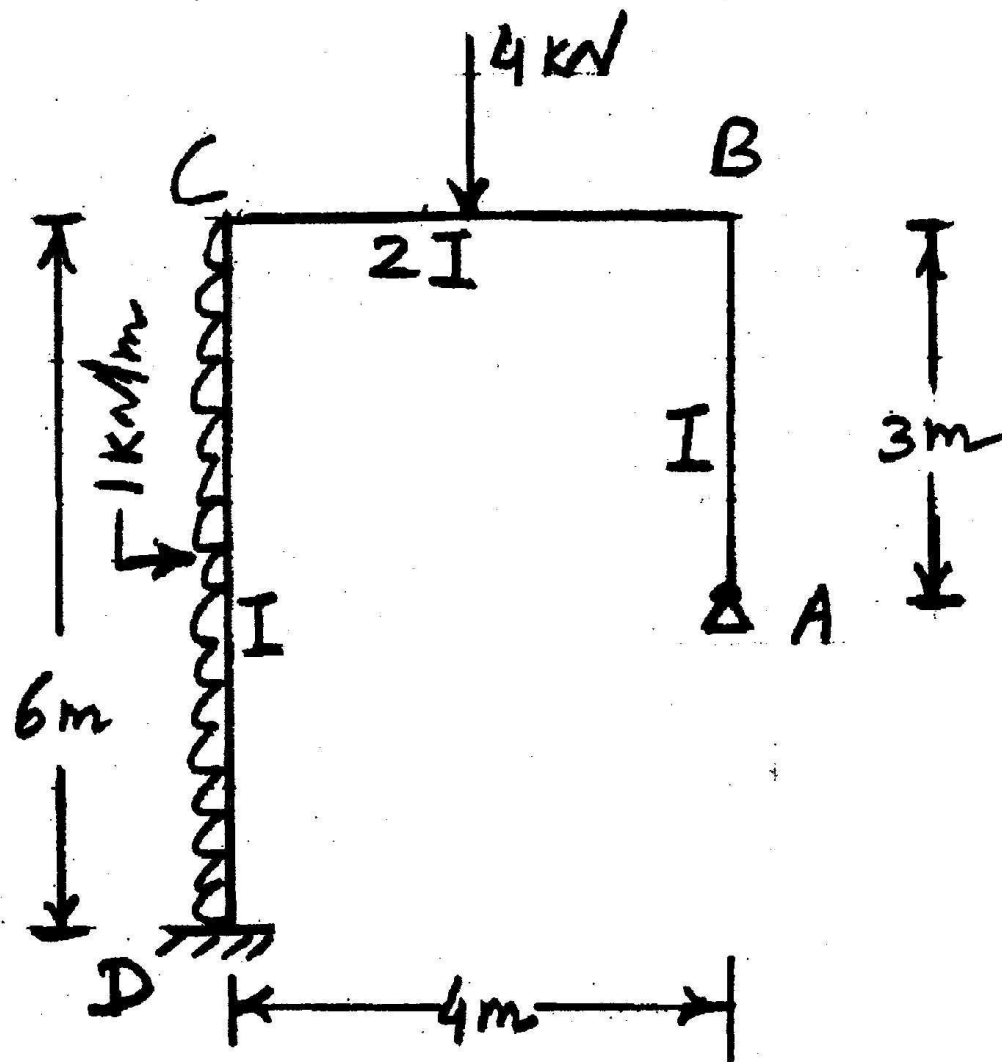

Fig. 3
- 2 Analyse the frame shown in Fig.3 using slope-deflection method. Draw BMD and deflected shape.
- 2 Analyse the frame shown in Fig. 3 using moment distribution method. Draw BMD and deflected shape.